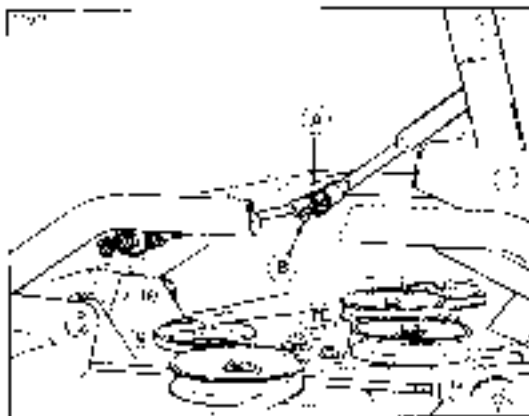

Figure 24. Lift Arm Halves
5. Disconnect the top and bottom halves of the mower lift arm as shown in figure 24. Reinstall spring clip (B) onto weld stud (A).
5. Connect top and bottom rollers of mower deck. Refer to figure 24.
10. Make sure deflector is properly installed as shown in figure 24.